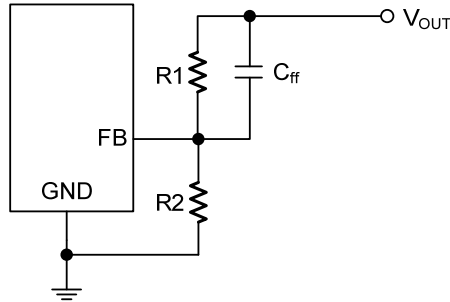

Figure. 1 Output Voltage Setting Circuits
Figure 1 shows the output voltage setting circuit of **UD18306T**. The external resistance voltage divider can set the output voltage according to equation (1).